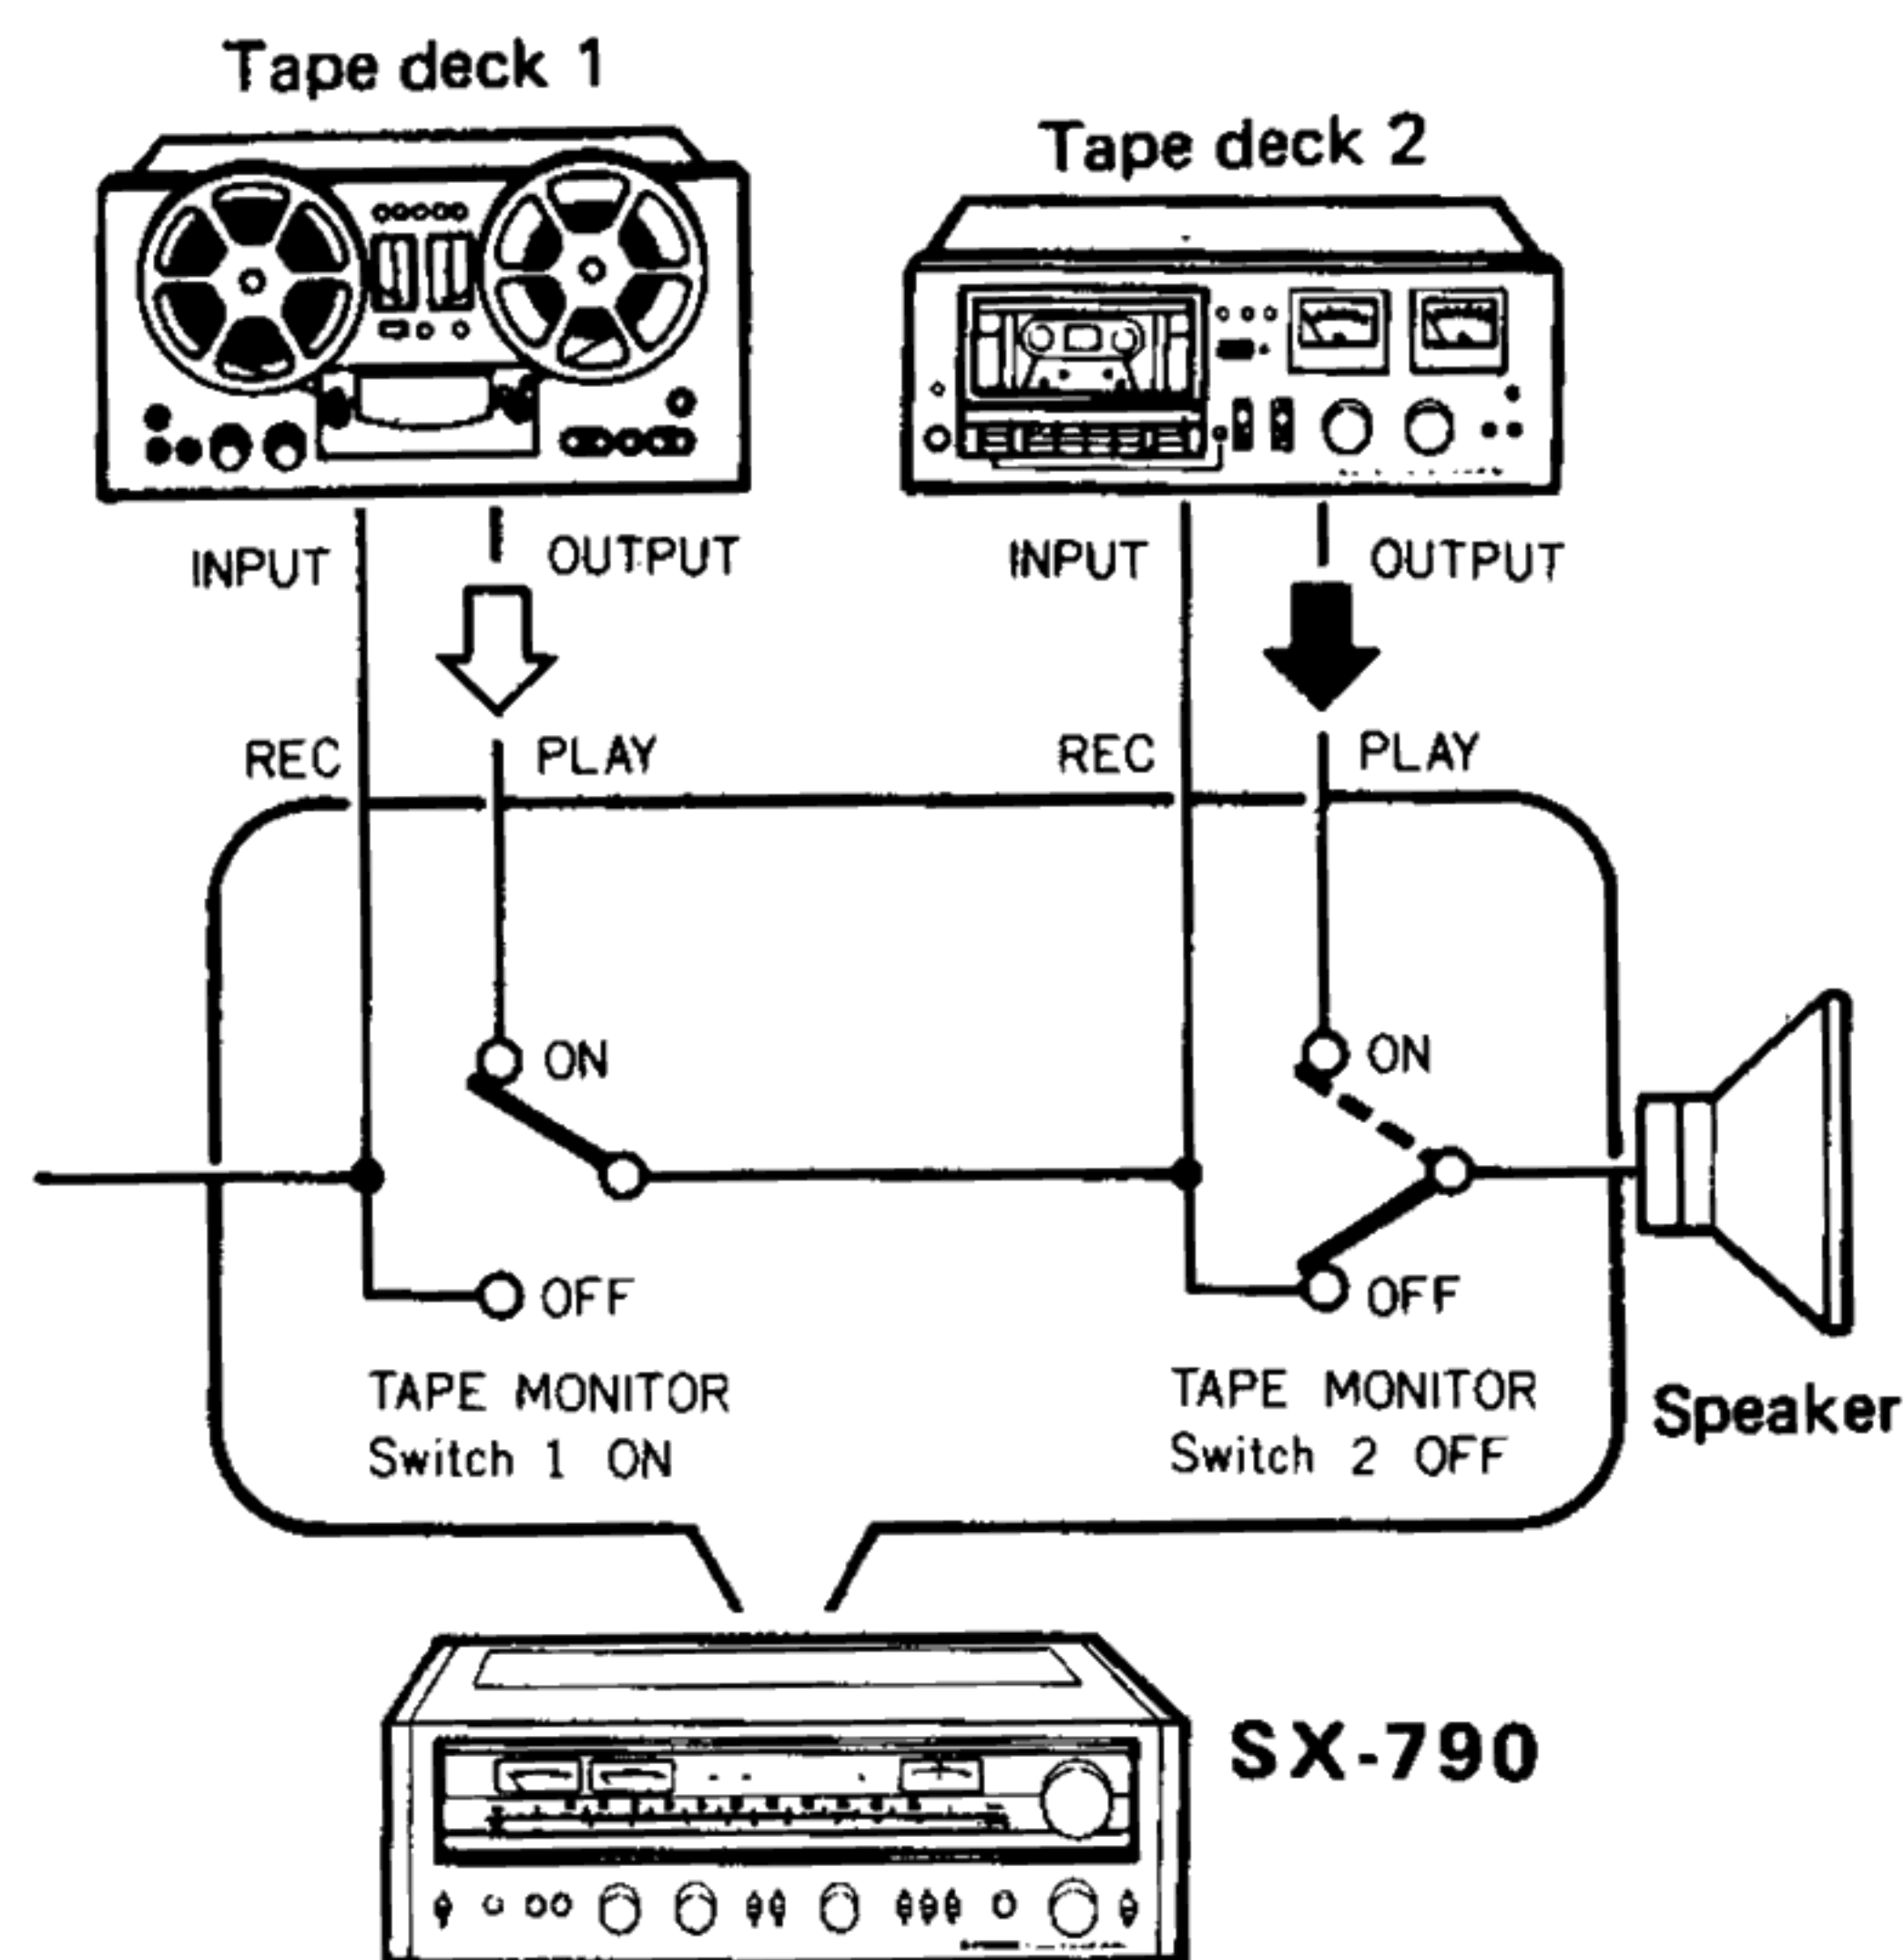

Fig. 11
1. As shown in Fig. 11, set the TAPE MONITOR switch 1 to ON if the tape deck is connected to the TAPE 1 jacks. Set the TAPE MONITOR switch 2 to ON if it is connected to the TAPE 2 jacks.